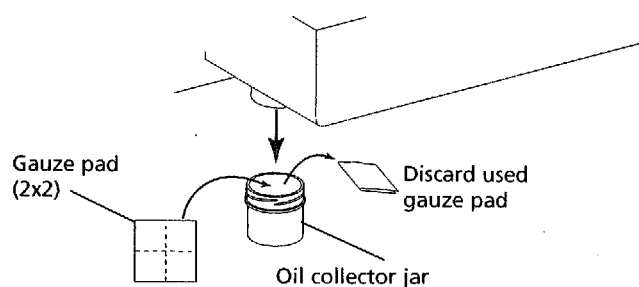

Figure 36. Oil Collection System
- Remove the oil collector jar from the unit and discard the old gauze (see Figure 36).